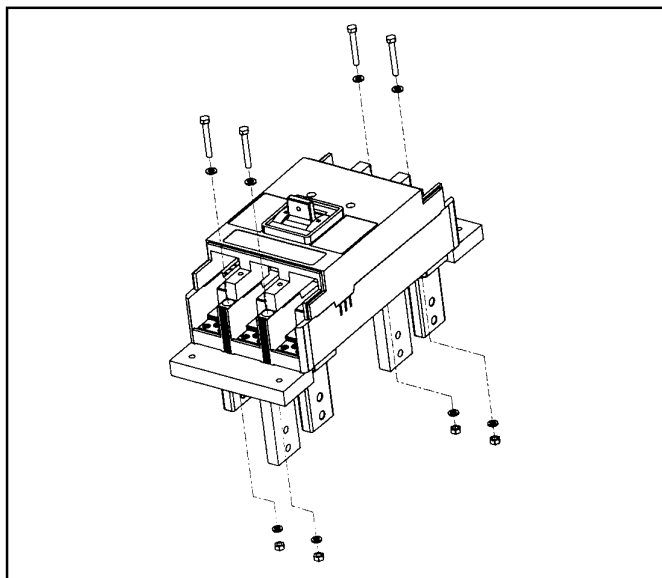

Figure 2-8. Mounting Plate Installation - 1600 A Rear Connect Circuit Breaker.
- b. Attach the insulating Mounting Plates to the Line and Load sides of the circuit breaker as shown in Figure 2-8 with the M8 x 1.25 x 60 mm (2.4 in.) Pan Screw and hardware supplied with the Mounting Plate.